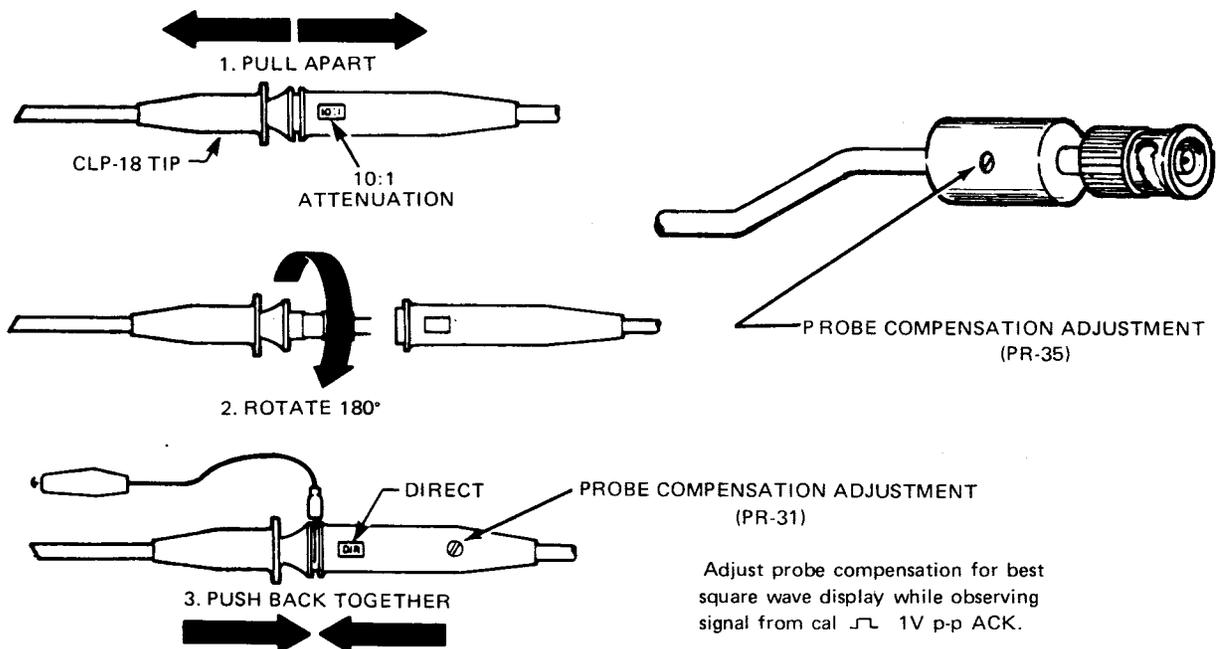

Fig. 3. Probe details.
- 30. **Probe (See Fig. 3).** The B & K-Precision Model PR-31 combination 10 : 1/Direct probes have been designed for use with this oscilloscope. However, any probe designed for use with an oscilloscope having a nominal input impedance of 1 megohm shunted by 35 pF and capable of operation up to 10 MHz, can be used.
2. For all except low-amplitude waveforms, the probes are set for 10:1 attenuation. For low-amplitude waveforms (below 0.5 volt peak-to-peak), set the probe for DIRECT. See Fig. 3 for changing the probes from 10:1 to DIRECT, or vice versa. The probe has a 10 megohm input impedance with only 18 pF shunt capacitance in
3. If the recommended B & K-Precision Model PR-31 oscilloscope probes are used, 10:1 attenuation should be used except for waveforms of 0.5 volt peak-to-peak or less. For the lower amplitude waveforms the DIRECT position should be used. See Fig. 3 for changing the probe from 10:1 to DIR or vice versa. Whenever possible, use the high impedance, low capacity 10:1 position to minimize circuit loading.